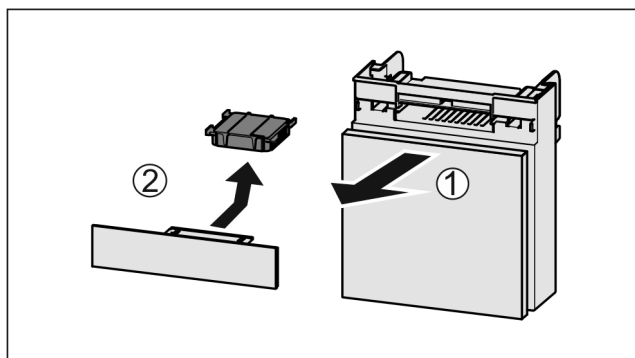

Fig. 197
- Pull out the compartment Fig. 197 (1).
- Remove the carbon filter Fig. 197 (2).